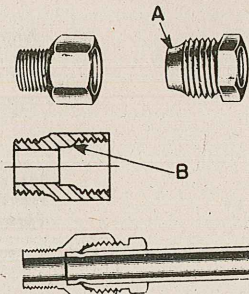

Figure 2
The second type of fitting, *Double Compression*, (Fig. 2) consists of two parts; a Nut and a Body. The nut has a male thread with a thin tapered end (A) extending beyond the threading. The body has a female thread to receive the nut, with a tapered belling (B) at the base of the (inside) thread.